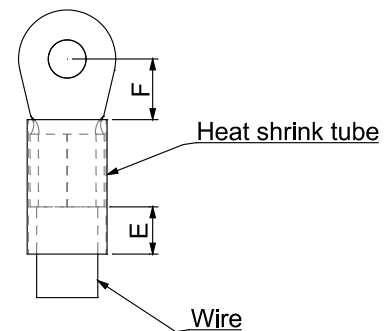

Figure 2.
- After crimping the wire to the ring lug (must be UL approved), UL and CSA approved R/C (YDPU2), install heat shrink tubing rated at a minimum of 600 VAC insulation over the live part. Refer to Figure 2 below.